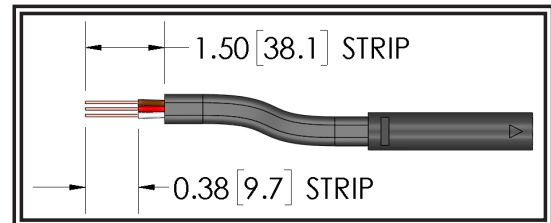
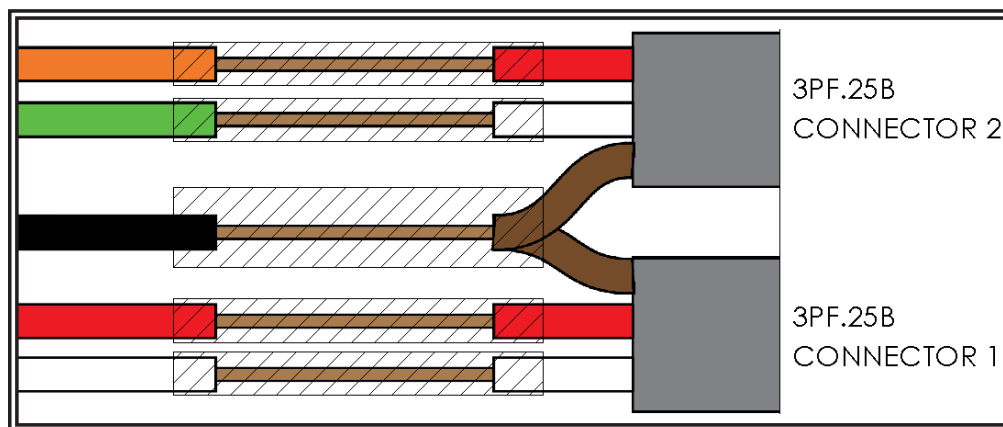

Figure 2
Figure 3
2. Strip jacket back from the Cables and strip all wires as shown in FIGURE 2.
5. Prior to splicing, insert five (5) 1" pieces of heat shrink over the Orange, White, Black, Red, and Green wires from the Lighthead. Add one (1) 8" piece of heat shrink over all wires.
6. Lineman's Splice the wires together according to their color configuration in FIGURE 3. Ensure Connector 2 splices to the orange and green wires and Connector 1 splices to the red and white wires.
7. Apply heat to heat shrink over individual wires are shown in FIGURE 3.